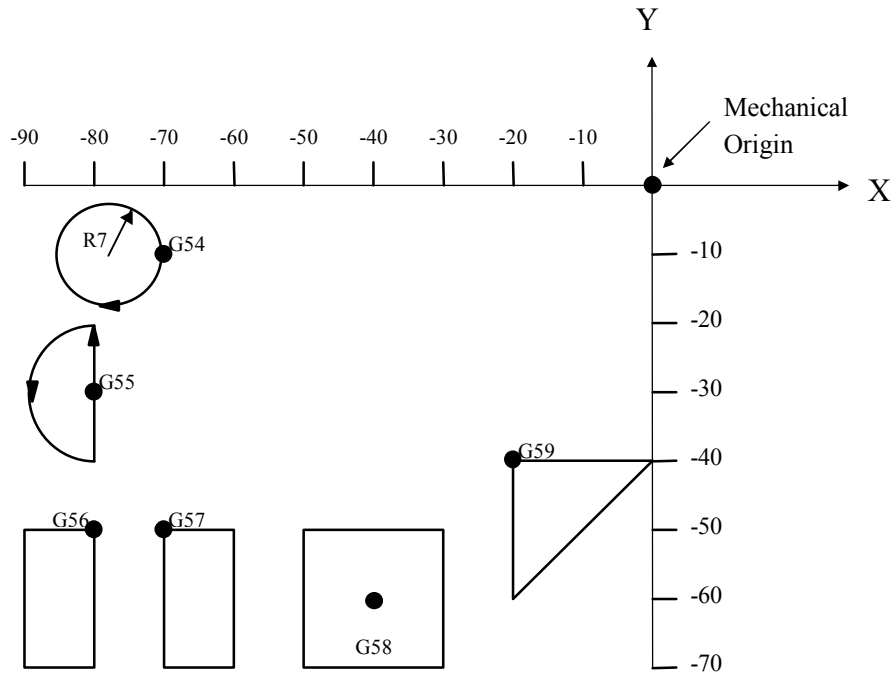

Fig. 3-84 G54~G59 application
2. When a Work Coordinate System is selected, program coordinates also change accordingly. The altered coordinates are based on the Work Coordinate System. Adding circular and semi-circular cuttings in program of the above figure, the application of G54 and G55 can be described by the following example. (Fig.3-84)